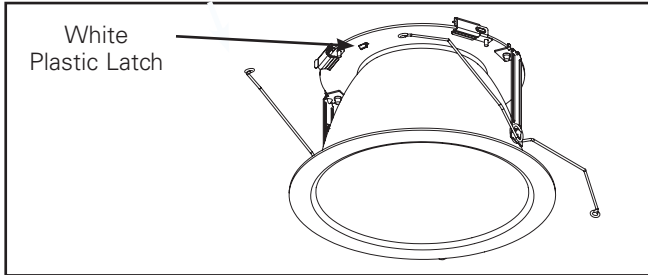

Figure 39
1. Press in on white plastic latch to remove upper reflector and clean lens. (Figure 39 & 40)